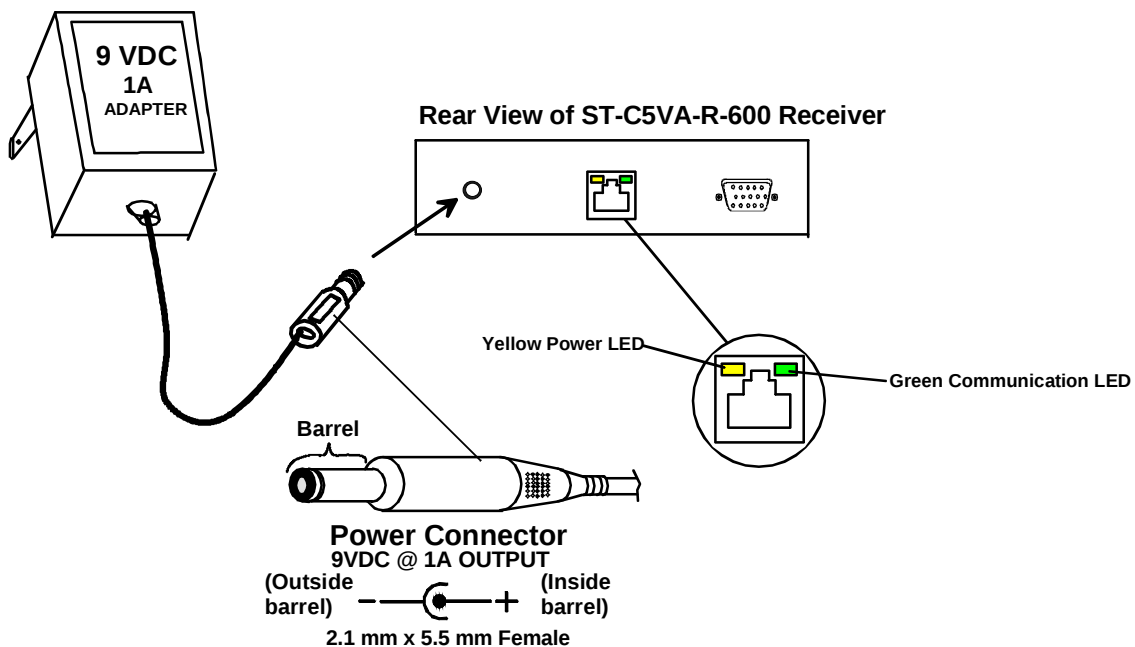

Figure 11- Connect an AC adapter to a ST-C5VA-R-600 Receiver
2. Connect 75 ohm RCA cables between the remote HDTV and the RCA connectors marked "Y", "Pb", and "Pr" on the Receiver as shown in Fig. 11.
3. Connect coax cable for stereo audio cable between the audio connection(s) on the Receiver and the audio device. (See Fig. 11)